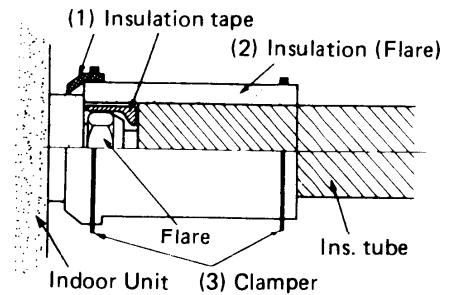

Fig. 6
3. After performing a leak test on the connecting part, insulate it with INSUL. NIPPLE and finish with a vinyl masking tape over it. Fig. 6 (Accessories parts (1) ~ (3))